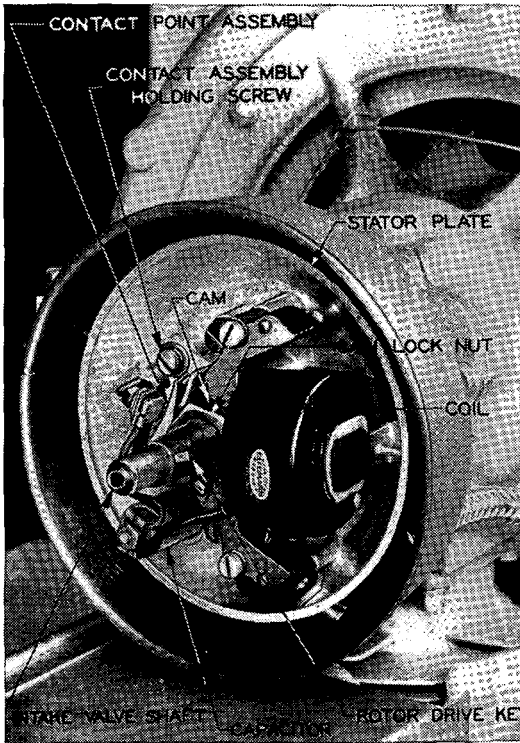

FIGURE 6.—Contact point adjustment.
(2) Each time the plug is removed, the baffle is to be taken out for cleaning. It is extremely important to scrape out thoroughly all carbon, brownish lead deposits, and loose particles on both sides of the baffle. The baffle will operate satisfactorily with up to 50 percent of the holes plugged. However, it is to be replaced every 75 hours of operation. Always use a new gasket when replacing the baffle.
b. Magneto.—The only adjustment is at the contact point assembly (fig. 6) which is to be inspected every 75 hours of operation to see that the gap is exactly 0.020 inch. To adjust, proceed as follows:
point of cam (fig. 6), approximately $\frac{1}{8}$ inch past the breaking edge of the cam. Check the gap with a feeler gage.